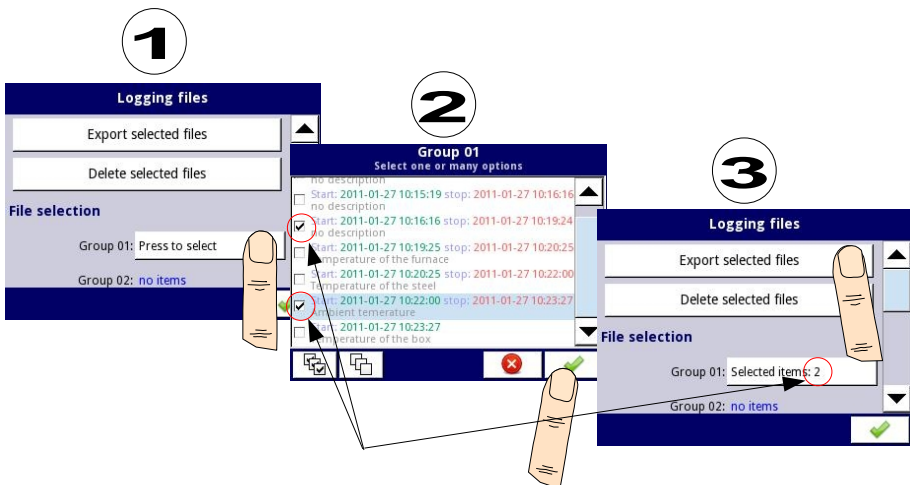

Fig. 7.20. Steps of exporting logged files to flash drive
An example of exporting 2 logged files from group 1 is shown in Fig. 7.20. First plug the flash drive into the device.
Deleting files from the device is similar export logging files, the difference is that instead of pressing the **Export selected files** button in (3) step (see Fig. 7.20), press the **Delete** button.